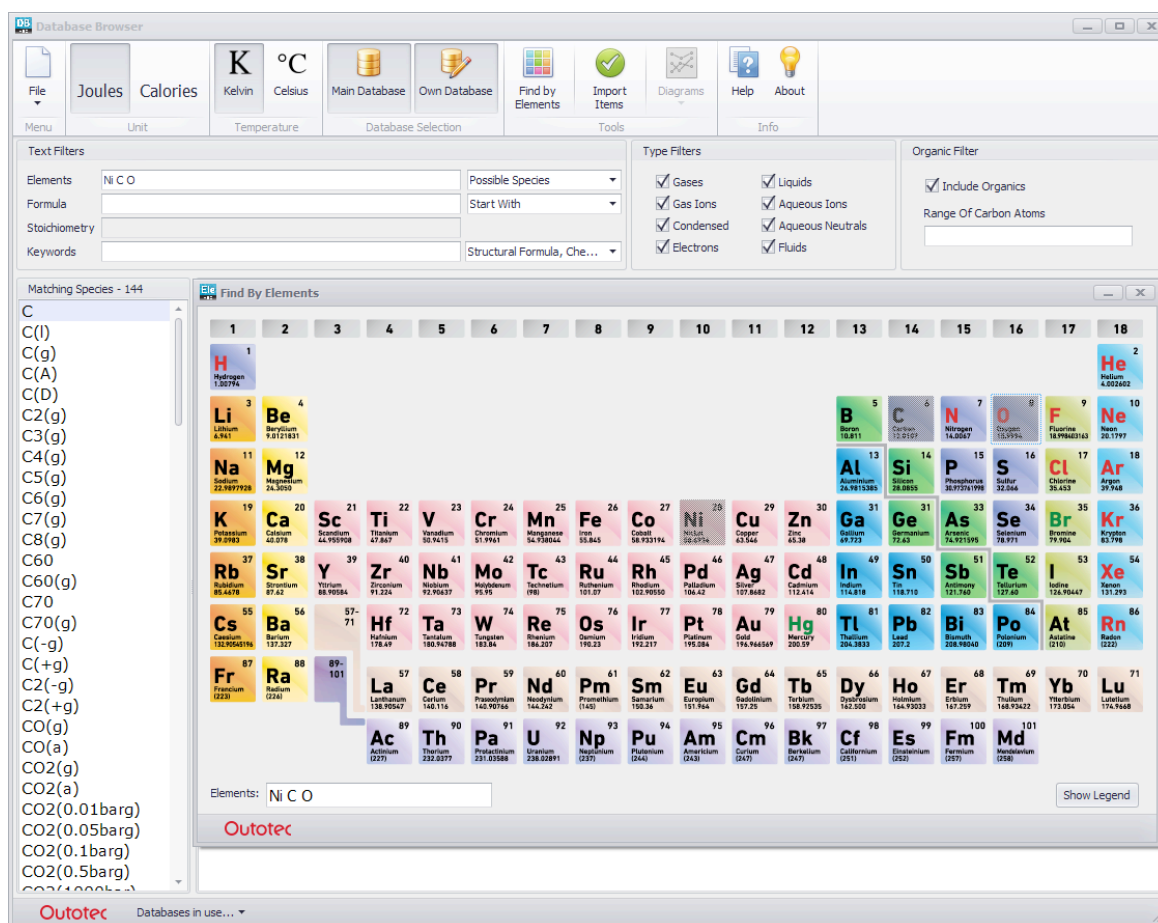

Fig. 3. Specifying the elements of the chemical system.
1. Press **Empty File From Elements**. Then specify the elements which are present in your system, see **Fig. 3**. The HSC program will search for all the available species in the database and divide them, as default, into gas, condensed and aqueous phases. The user can then edit this preliminary input table.